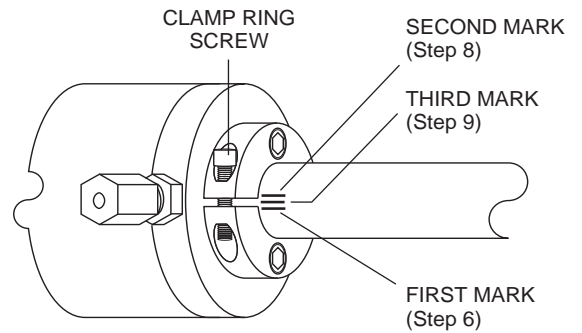

Figure 5: Marking valve or standoff during alignment procedure
6. While holding the valve steady, use a soft pencil or ink marker to make a mark on the standoff corresponding to the slot in the actuator clamp ring. This slot makes a clear fixed reference point for observing relative rotational positions. In the case of a closemount valve, make this mark on the valve body. See **Figure 5**.
8. Make another mark as in Step 6. (**Figure 5**)